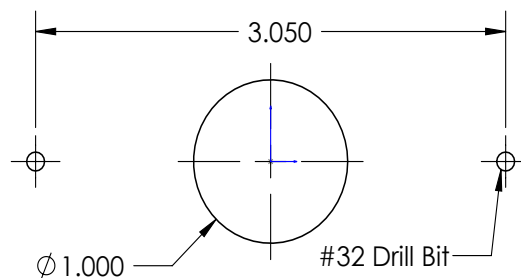

FIGURE 2
1. Mark off and drill two mounting holes (#32) and the 1" wire hole on the vehicles mounting surface using the dimensions shown on Fig 2. Verify free clearance exists behind the mounting surface for wires and fasteners before drilling.